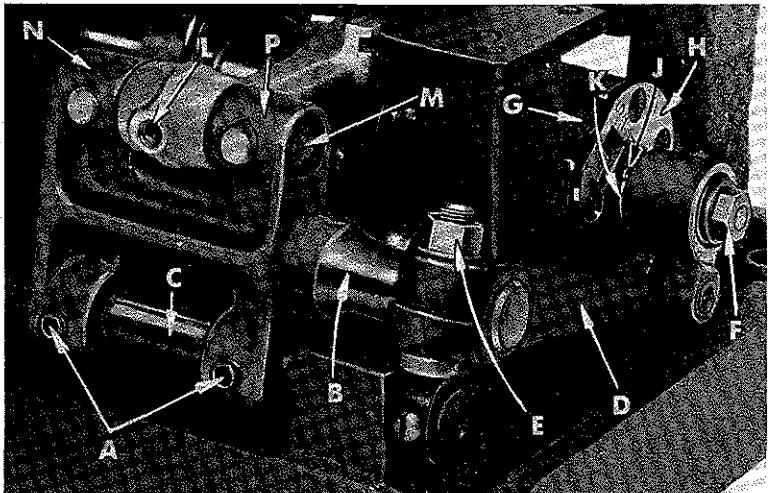

Fig. 10
Should it be necessary to move the feed dog to the left or right, loosen screws (A, Fig. 10) which hold the feed rocker (B) onto the feed rocker shaft (C), and move feed rocker to desired position and retighten screws. Make sure the feed rocker arm (D) does not bind after making this adjustment.
Should it be necessary to move the feed dog forward or backward, loosen nut (E, Fig. 10) which clamps the feed rocker arm to the feed rocker and move the feed rocker forward or backward as needed and retighten nut.
Set the stitch to required length. This is accomplished by loosening the locknut (F, Fig. 10) 1/2 turn (it has a left hand thread) on the end of the stitch regulating stud and turning the stitch adjusting screw (G) located under the left end of the cloth plate, in the head of the main shaft (H), which is marked with "L" and "S". Turning the screw clockwise shortens the stitch (moves stitch regulating stud toward the "S") and turning it in a counterclockwise direction lengthens the stitch (moves stitch regulating stud toward the "L"). Retighten the locknut securely. To prevent destructive damage to the feed drive bearing, the Key screw (J) must engage the "U" shaped key slot in the ferrule (K).
The feed rocker assembly may require lubrication or repair after years of operation. This can be accomplished as follows: Loosen nuts (E, F, Fig. 10) and remove nut (F). Remove feed rocker arm (D) from machine by rocking slightly. Loosen screws (A) and remove stop collar on right end of shaft (C). The shaft can now be withdrawn. Loosen Allen screw (L) and remove shaft (M). Now, repack bearings.
Greased bearings are located at (N, P, Fig. 10). If grease sealed bearings are replaced they should be pressed in flush with the casting. To assemble, reverse the procedure described in the previous paragraph. Start tapered end of shafts first, twisting slightly when entering the grease seals to prevent damage. Check for proper adjustment of feed dog as described under "Setting the Feed Dog". Also check to see that there is no binding at any point.